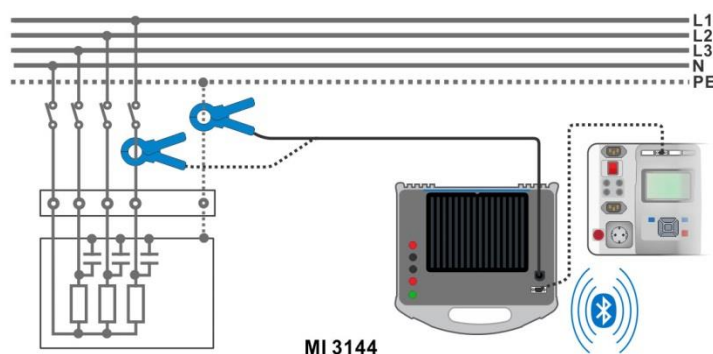

Figure 6.101: Current Clamp Meter measurement
- Wrap the object under test with the measuring clamp. See **Figure 6.101**. Refer to **MI**